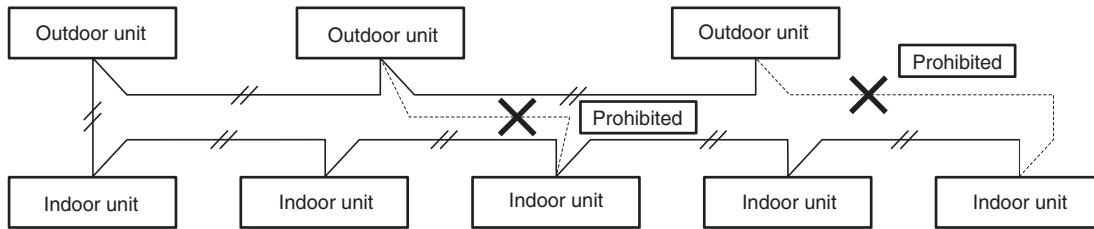

Fig. 4-3
- (2) Do not install the inter-unit control wiring in a way that forms a loop. (Fig. 4-3)